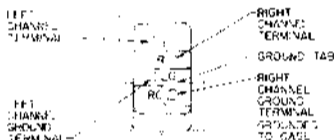

FIGURE 1
CONNECTIONS (see Figure 1): Right "hot" lead (usually red) to "R," right ground (usually green) to "RG," left "hot" lead (usually white) to "L," left ground (usually blue) to "LG." If metal head is causing ground loop hum, remove the ground tab. The metallic cartridge shield is disconnected from the right channel ground by the removal of the ground tab.
2. Connect leads to cartridge (see Figure 1).
2. Enfillez les cosses sur la cellule (voir fig. 1).